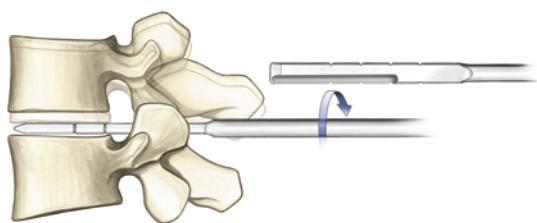

Fig. 2
- The desired distraction can be set using the distractors, available in heights from 7-17 mm in 1 mm increments (Fig. 2). The distractors are inserted one after the other alternating the side of the disc until the desired distraction is obtained.